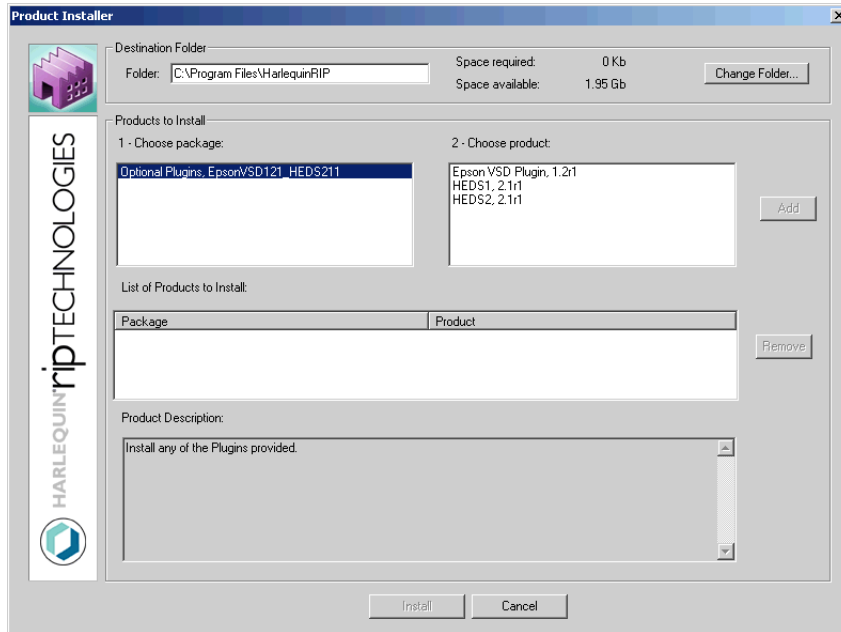

Figure 1.1 The Product Installer application
2. Double-click the installer file (`install-macos9`, `install-macosx`, `install-linux` or `install.exe`), to start the Product Installer application (Figure 1.1).